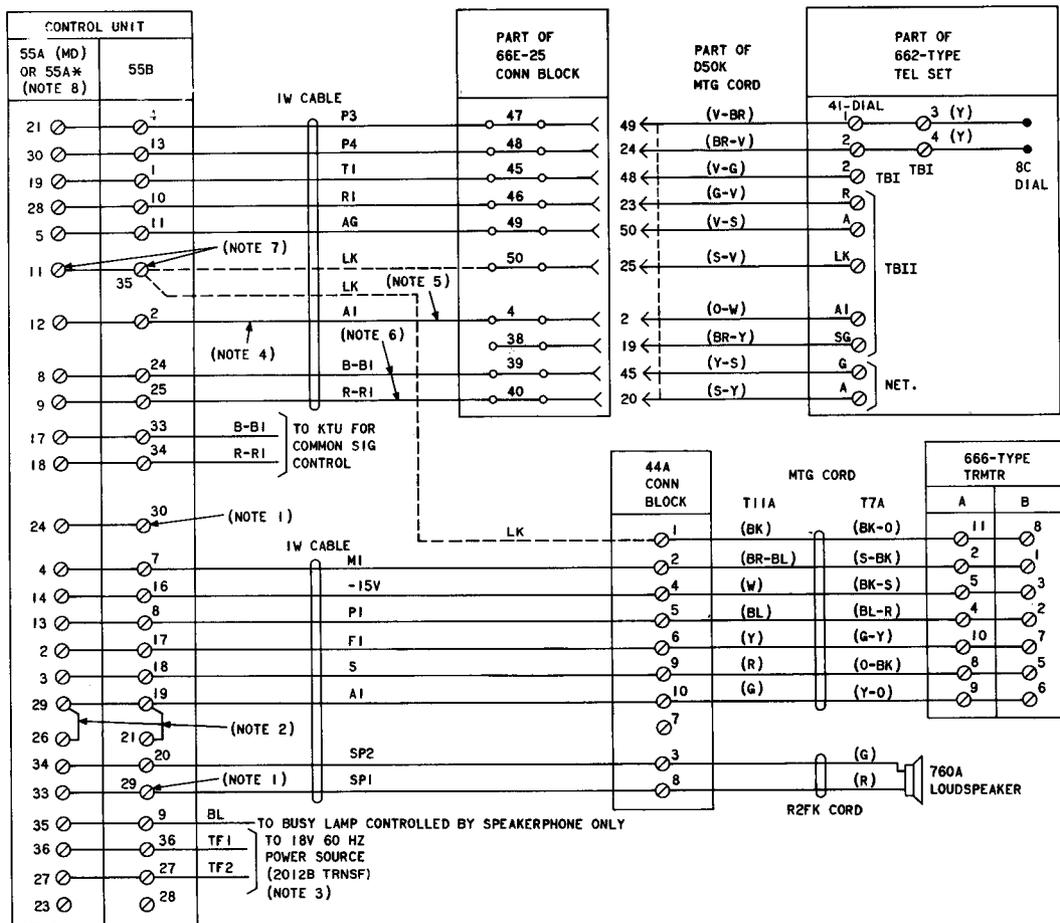

Fig. 1—662-Type Telephone Set, Connections
- Remove information from Fig. 1 permitting maximum separation of 500 feet between control unit and transmitter and loudspeaker
**2.03** Sets are presently being manufactured with an 8R dial which must be replaced with an 8C dial when speakerphone is supplied. In addition straps must be added from 1 and 2 of the 41-type dial terminal board to 3 and 4, respectively, of TB1 to parallel the P3 and P4 leads with the off-normal contacts of the 8C and 41-type dials (Fig. 1).